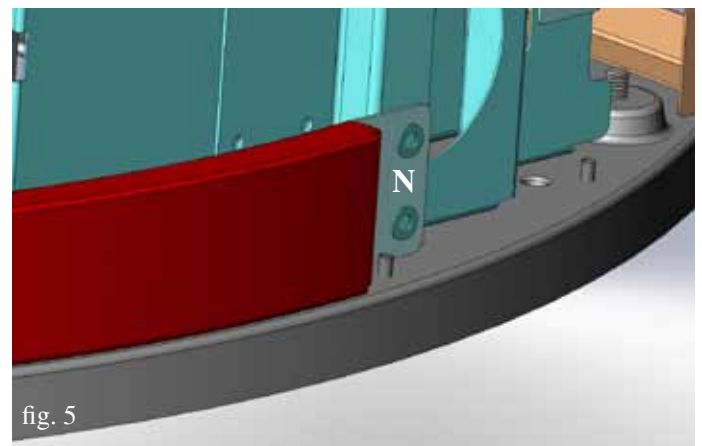
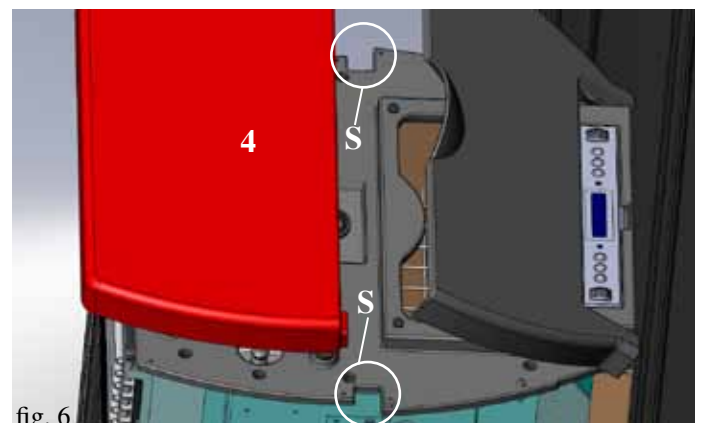

fig. 5
fig. 6
- Secure the ceramic panels with the plates applied to the stove's structure, inserting the screws and the washers supplied in the holes provided (fig. 5)
- Reassemble the two aluminium rear sides (5).
- Position the ceramic top (4) in the grooves. (S-fig. 6).
Note: In the version with sheet metal covering, the stove is supplied already assembled, except the ceramic top which must be positioned in the special grooves (S-fig. 6).